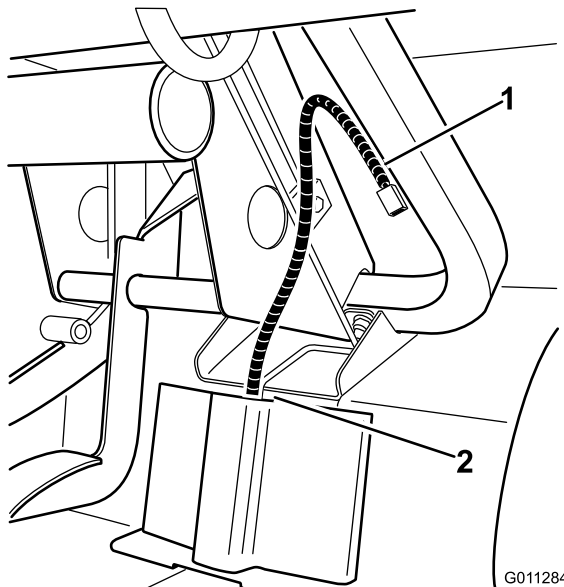

Figure 10
5. Route the plug end of the wire harness up through the floor board to the under side of the dash (Figure 10). This plug will provide power for the converter in the 12V Power Plug Adapter Kit.